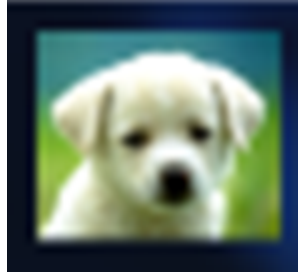

Figure 11. MUT icon
1. On the desktop, click the **MUT** icon (Figure 11).